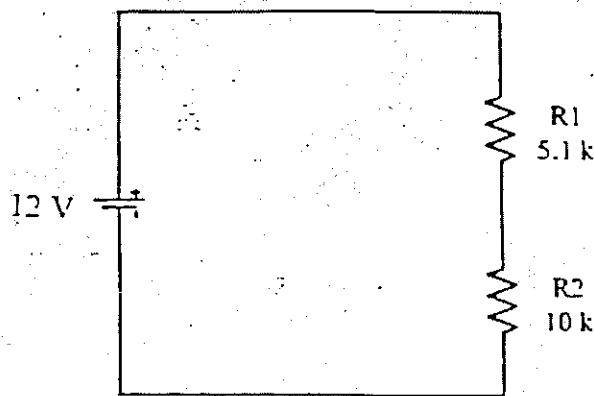

Figure 1
1. Figure 1 shown the circuit for this experiment on Printed Circuit Board (PCB)
From Figure 1